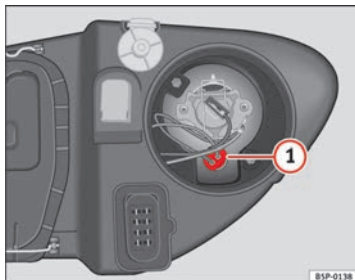

Fig. 188 Side light
- Extract the bulb holder ⇒ Fig. 188 **1** outwards.